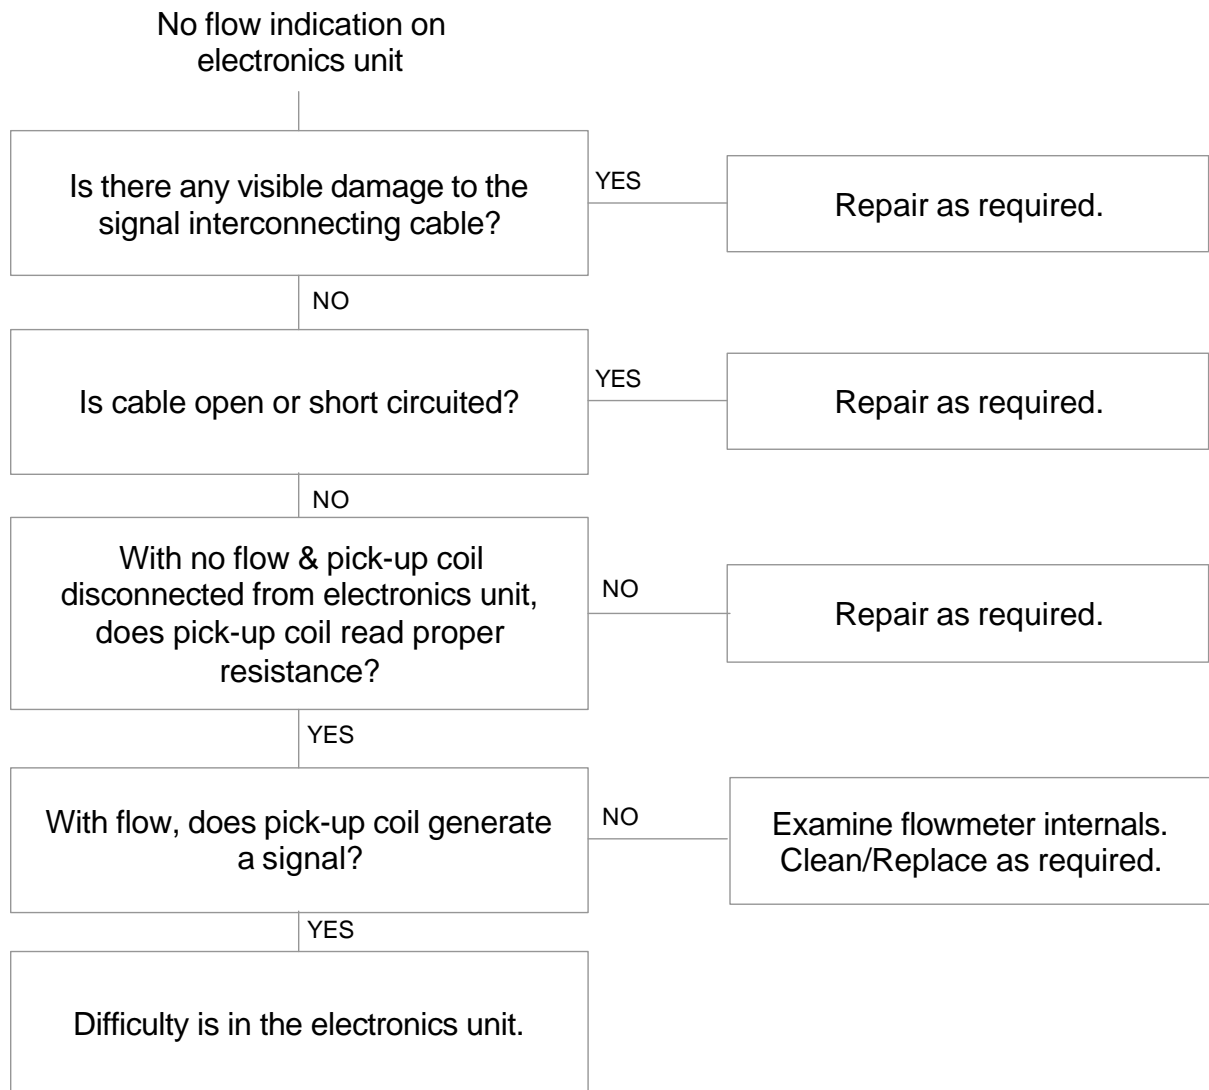

Figure 5 Flow Sensor Fault Logic Diagram
- 1. In the event of signal failure (no flow indication) the following procedure should be followed. In each case proceed to the next instruction only if the defect is not found. Refer to the fault-logic diagram (Figure 5) for the flow sensor.